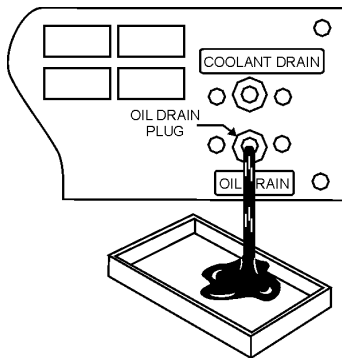

Figure 33. Engine Oil Drain Plug
1. Remove engine oil drain plug located at the bottom of the generator enclosure (Figure 33) and drain oil from crankcase. For best results drain oil while engine is warm. Reinstall oil drain plug, and add engine oil as specified in Table 6. Crankcase oil capacity is 2.64 qts. (2.5 liters).